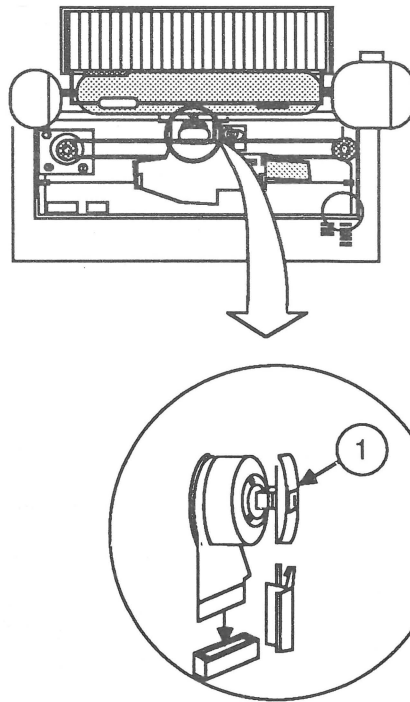

FIGURE 7
4. Remove the ribbon cartridge and the print head (Figure 7 #1).